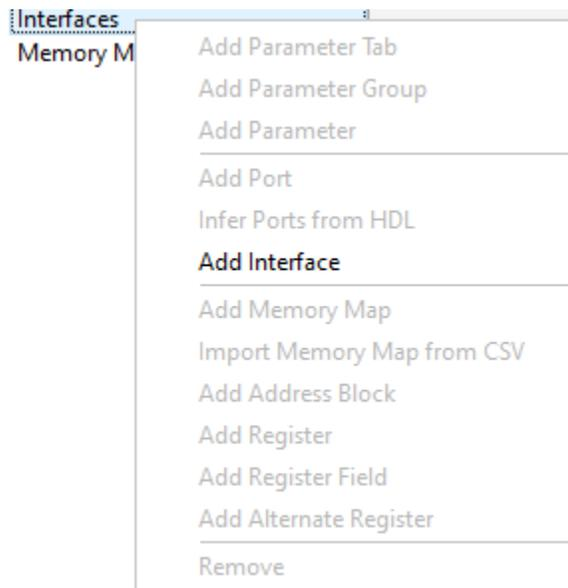

Figure 3.20. Right-click Menu of an Interface
- Right-click **Interfaces** from the Meta Data view, and choose **Add Interface** (Figure 3.20). A new interface **NewInterface1** is created.